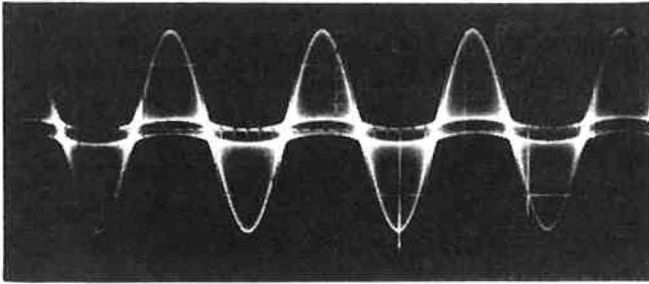

FIG. 15
11. Adjust the oscilloscope to properly synchronize on the composite waveform. Adjust the left channel amplitude switch control for minimum curvature in the base line as shown in Fig. 15.